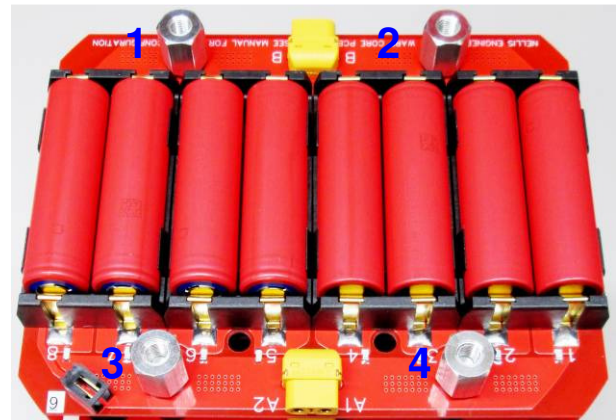

Figure 29
4. Remove 4 threaded aluminum hex spacers from top battery layer and 4 black plastic washers (Figure 29) Place out of the way until needed for assembly.